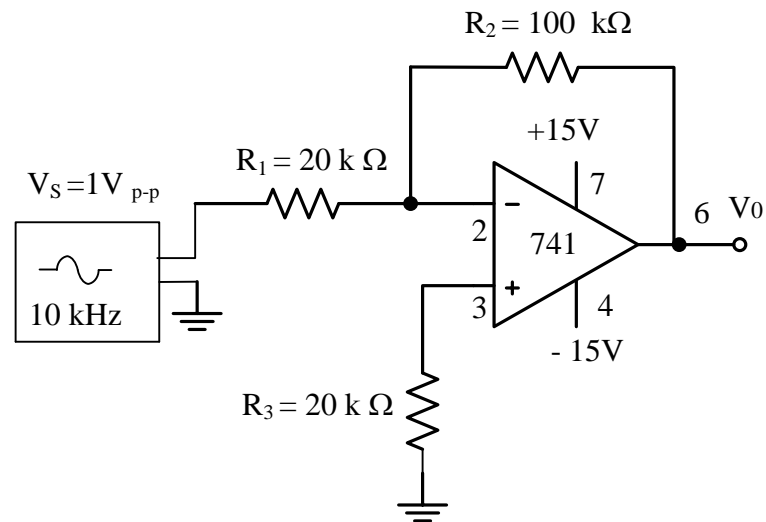

Figure 1
1. Measure the resistances R_1 , R_2 and R_3 using DMM. Record the values in Table 1. Test the resistance of the potentiometer using DMM. Connect the circuit shown in Figure 1 using a 741 Op Amp. Be sure to connect the $\pm V_{CC} = \pm 15\text{V}$ supply voltages.